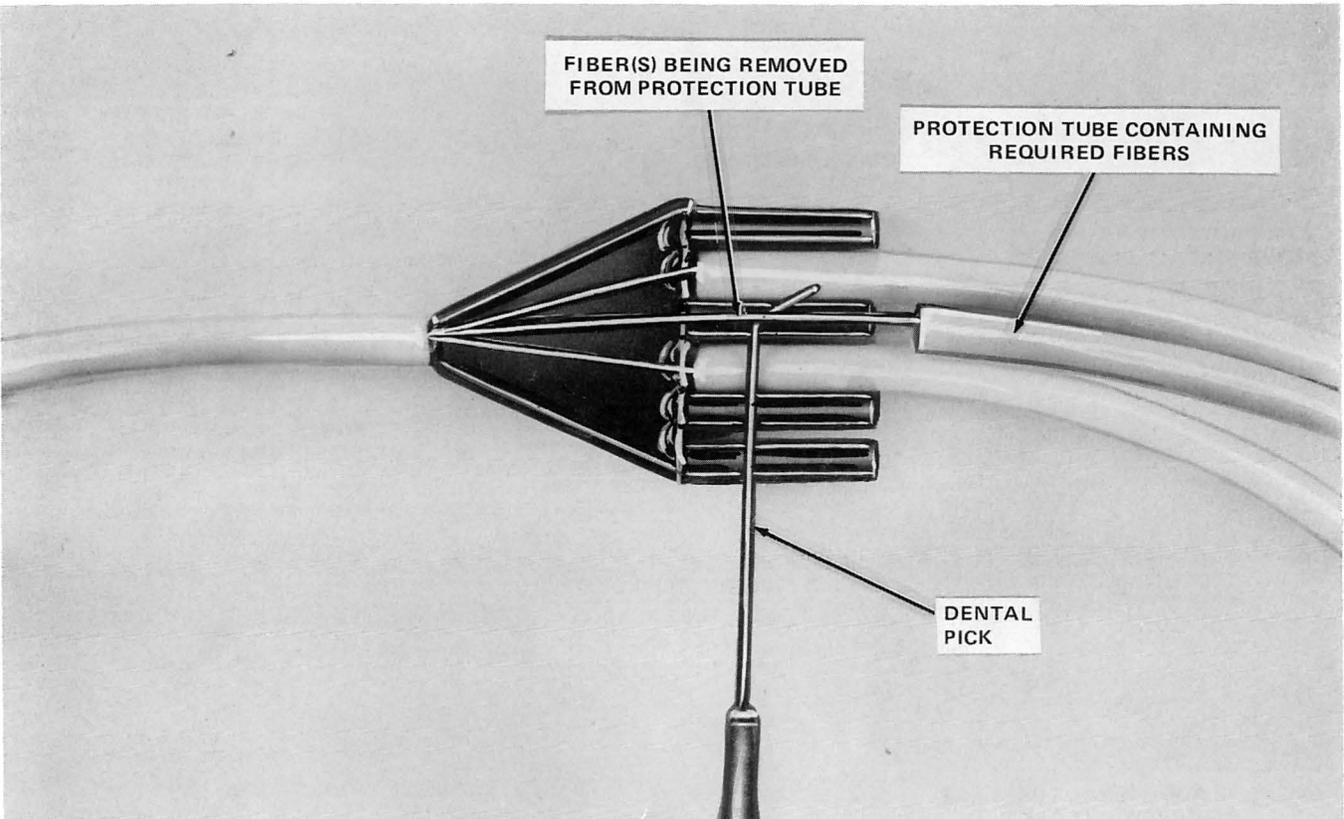

Fig. 57—Removing Fiber(s) From Protection Tube
8.05 If required, a fiber(s) can be removed from one exit port and relocated in another exit port. To do this, remove the protection tube from the exit port containing the required fibers, and then (using a dental pick) carefully remove the required fibers from the protection tube, as shown in Fig. 57. Replace the protection tube, from which the fiber(s) were removed, back onto the exit port.